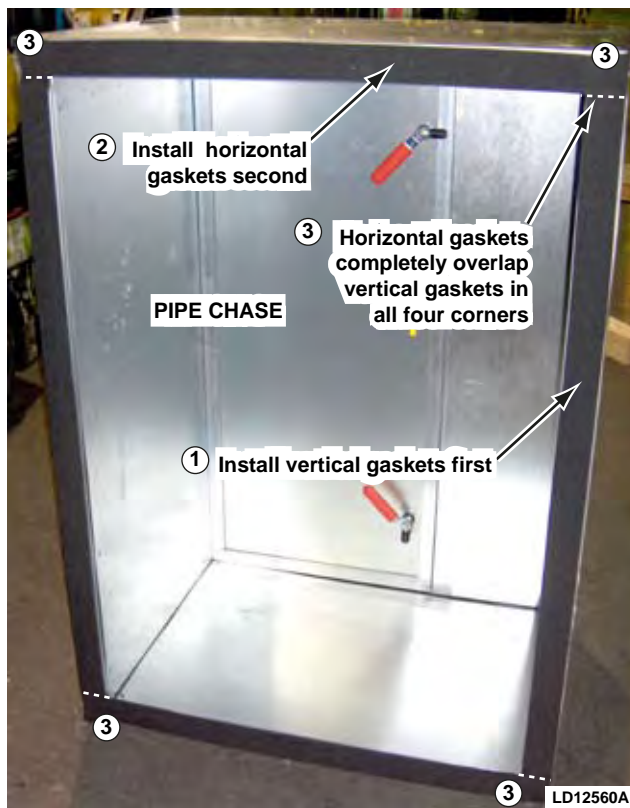

FIG. 2-42 – APPLY GASKET TO PIPE CHASE
- Apply 1/4" x 2" neoprene gasket to the pipe chase (vertical gaskets first, then horizontal gaskets). Keep the gasket aligned with the outside edges of the pipe chase housing (see Fig. 2-42).
Horizontal gaskets must completely overlap vertical gaskets in all four corners (see Fig. 2-42).